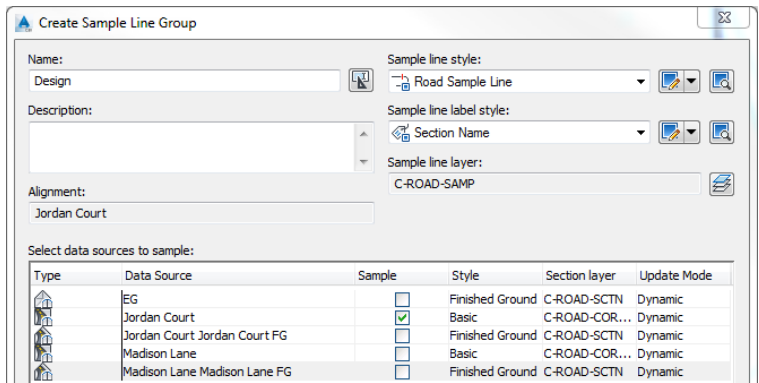

FIGURE 10.6 The Create Sample Line Group dialog box
- ▶ Verify that the settings in the dialog box match Figure 10.6, and click OK.